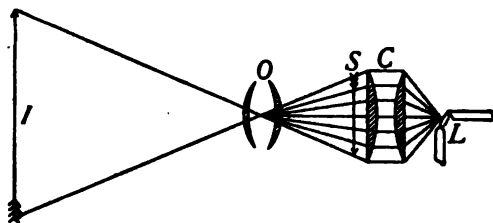

FIG. 395.—Diagram of the projecting lantern.
**394. The projecting lantern** (see Fig. 395) employs a strong source of light, as an electric arc lamp  $L$ , to strongly